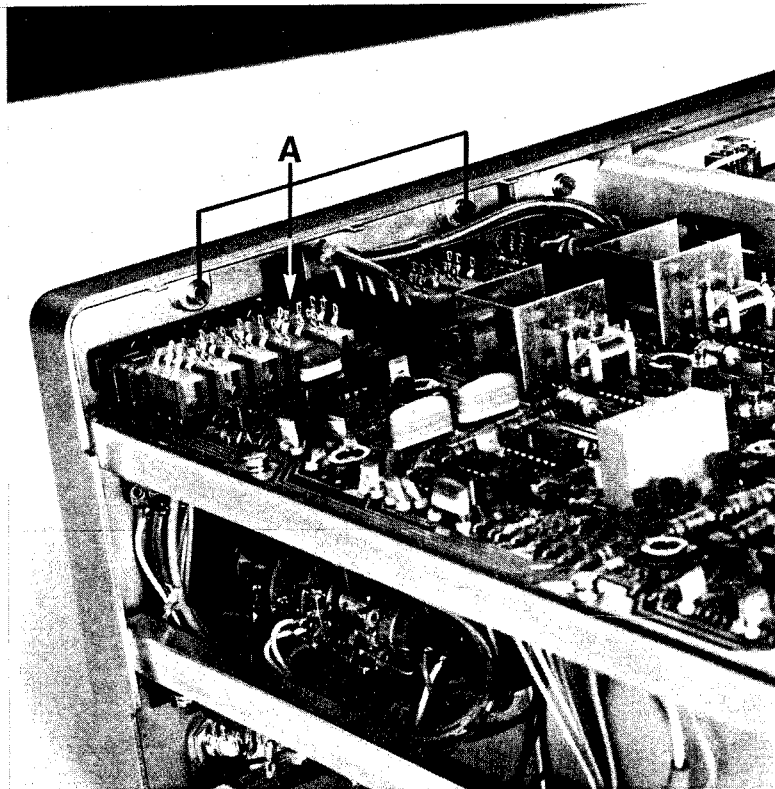

Fig. 3.4. Removing the front assembly (screws A)
- Remove the three screws A (Fig. 3.4.)